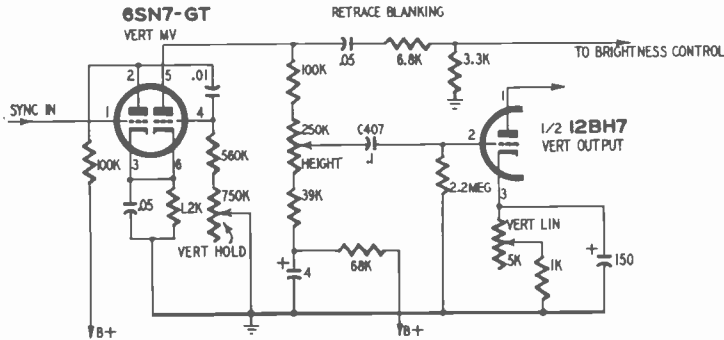

Fig. 3-P. Defective components in vertical oscillator and output can cause pix compression at top.
**SERVICE:** May be caused by misadjustment of vertical size and linearity controls by set owner. See Fig. 3-P. Check vertical-output tube, components in circuit; also possibility of defective resistor connected to one side of vertical-linearity control.